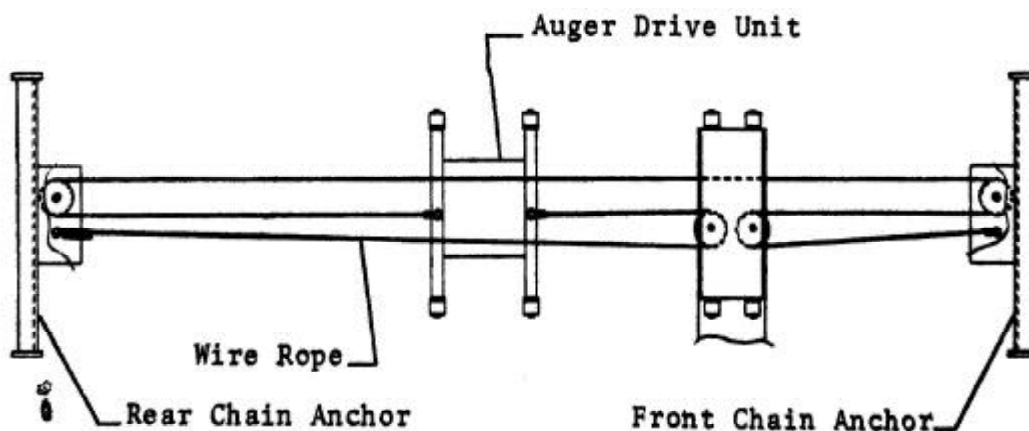

FIG. 3
- f. Rig 1/2" wire rope for moveable auger guide as shown in Fig. 3, page II-3.